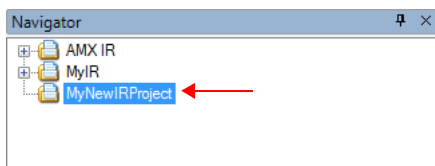

FIG. 12 Navigator window - New Project added
3. The new database will now appear in the *Navigator* window (FIG. 12):